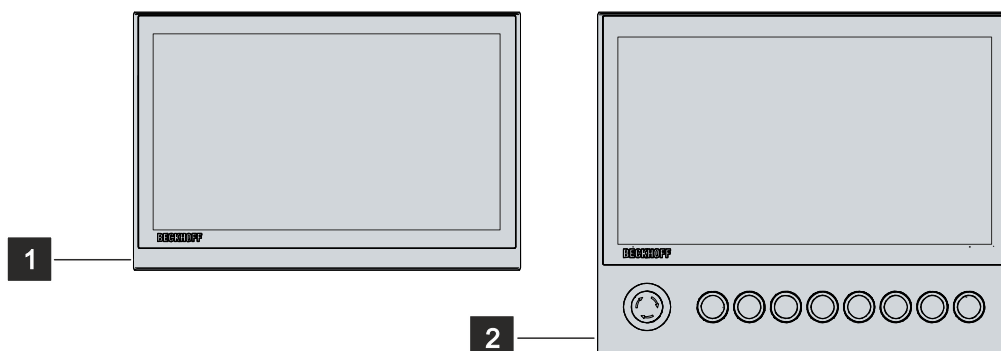

Fig. 1: Without and with push button extension
Explanations of the push button extension and the functions can be found in the installation and operating instructions for the C9900-G00x-G02x. Figure 1 shows an example of a control panel without (1) and with (2) push button extension.